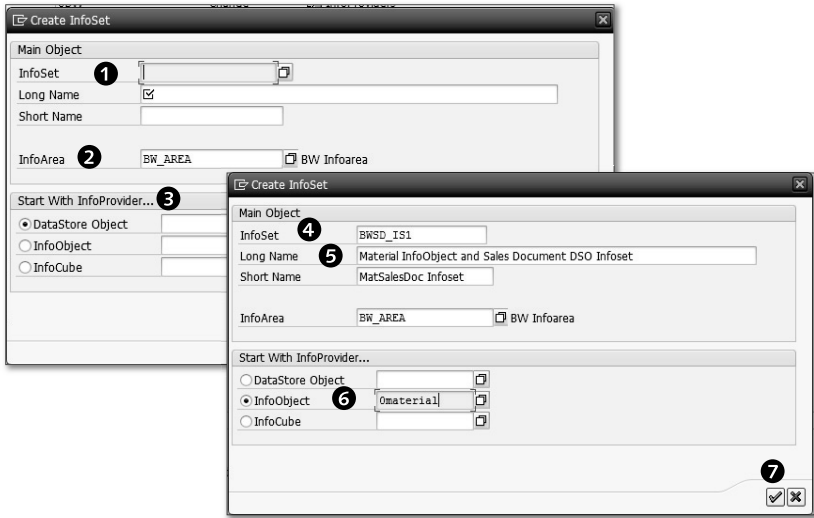

Figure 6.20 Initial Screen
Using the context menu of BW INFOAREA, click on the CREATE INFOSET option ❸. The CREATE INFOSET box appears, as shown in Figure 6.20.
InfoSets require a unique technical name and description, as shown in ❶ of Figure 6.20. The technical name of the BW_AREA InfoArea in which the InfoSet would be grouped is displayed in the INFOAREA field ❷. The START WITH INFO-PROVIDER section ❸ offers three choices: DATASTORE OBJECT, INFOOBJECT, and INFOCUBE.